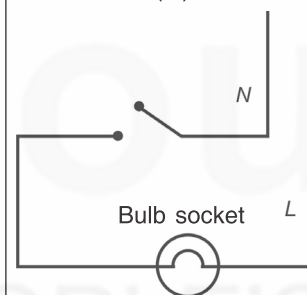

Fig. 9.2: Portion of laboratory wiring.
To understand the rationale for putting switches along the live wire, study Fig. 9.2 which shows a portion of the laboratory wiring. The switch for the light point has been placed along the neutral (N) wire.